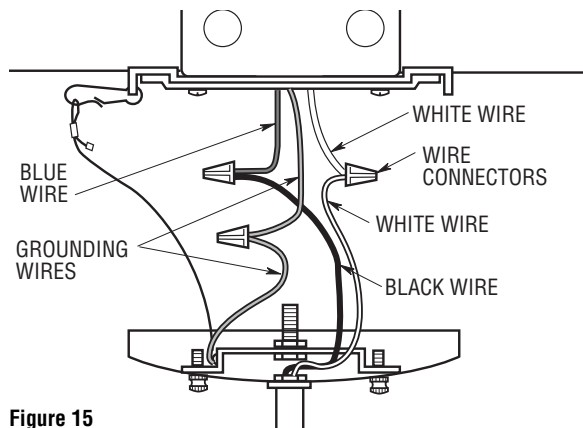

Figure 15
7. Connect the white wire from the light fixture assembly to the white wire of the outlet box (Figure 15). Connect the blue wire from the outlet box to the black wire of the light fitter assembly. Use listed wire connectors to make connections (Figures 15 and 16).